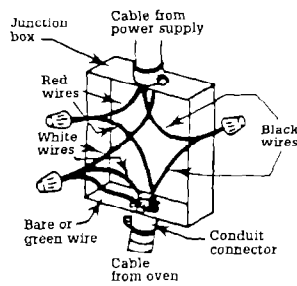

Figure 1
3. Connect the two black wires together; then the two red wires together. (See Figure 1.)